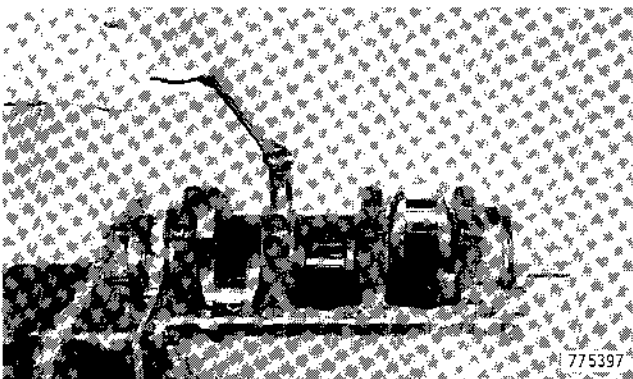

Figure 45
3. Remove the cap screws and tab washer from the main bearing caps, Figure 45.